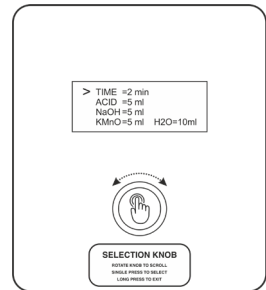

Fig. No. 19.2
- **START MENU** (Ref. Fig. No. 19.2)